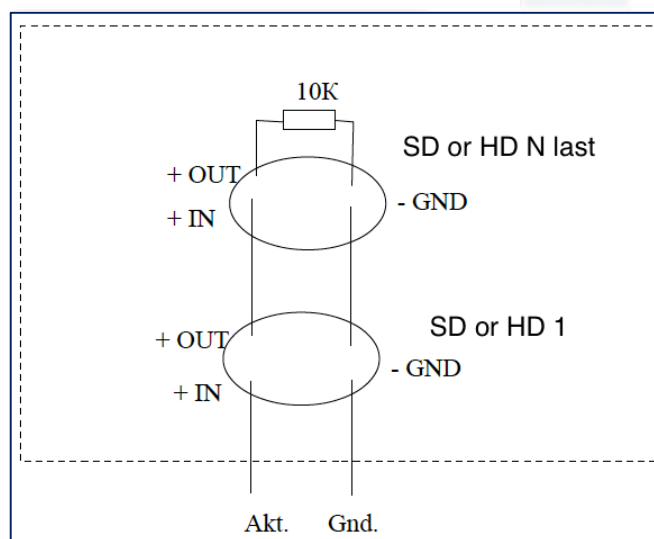

Fig.4
- Terminal X1-DP. Input for connection of smoke (SD), or heat (HD) detectors. A maximum of 10 detectors, of both types can be connected to one Control centre. Fig. 4 illustrates the connection scheme.